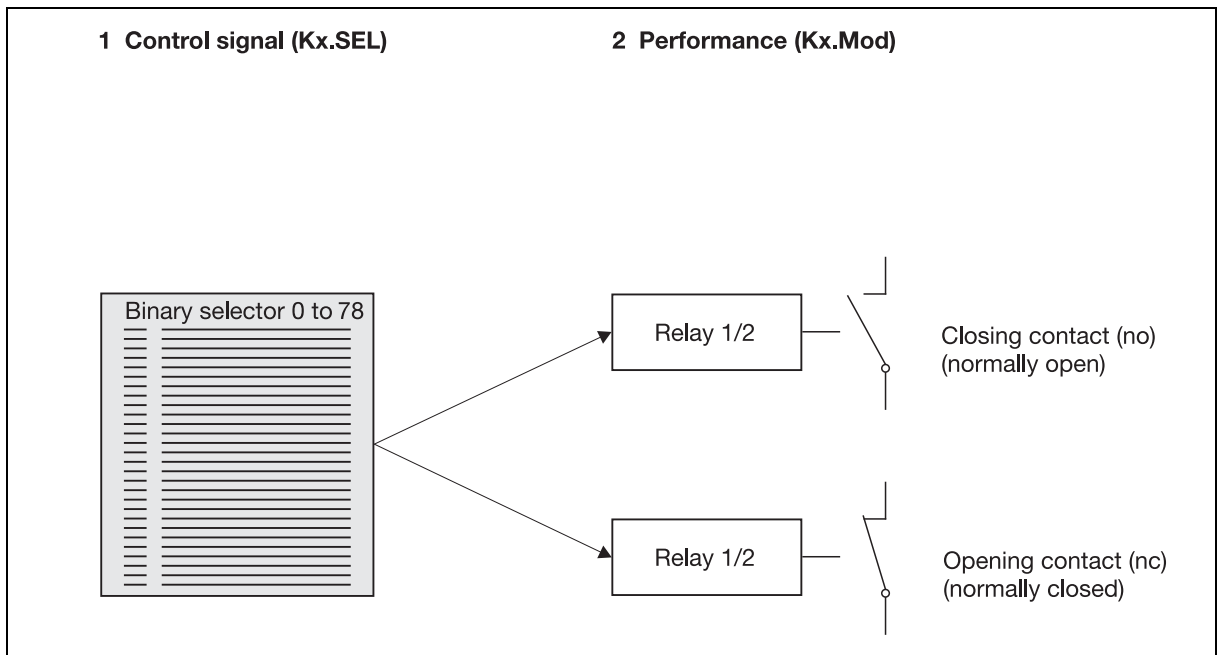

Fig. 9-2 Behavior of the relay outputs 1 to 2
This function defines the manner in which the relay output is operated. N/C and N/O contacts are available (see Fig. 9-2, item 2). Not every receiver type provides relay outputs.
The control signal (see Fig. 9-2, item 1) defines the status used to switch relay output 1 or 2. The following conditions can be set in the binary selector: